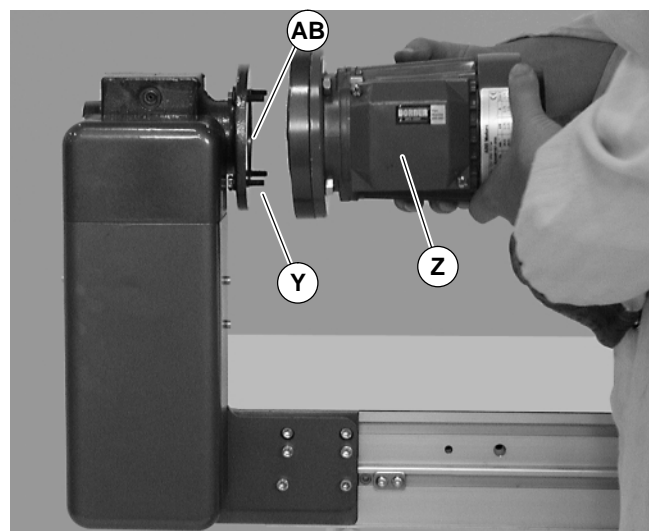

Figure 21
5. With key (AB of Figure 21) in keyway, slide motor (Z) and gear reducer together. Install screws (Y) and tighten.